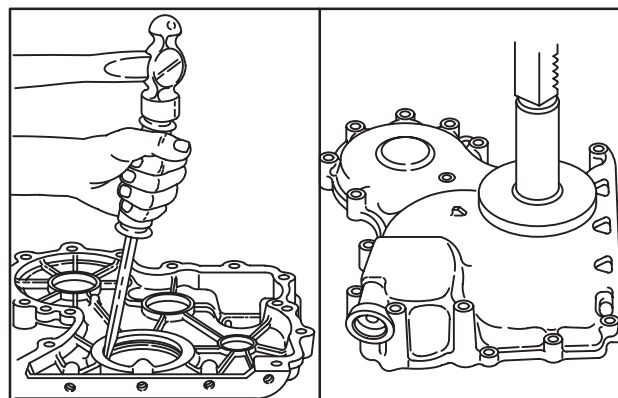

Fig. 12 – Replacing Oil Seal
2. Use seal driver, Tool #19423 to install new oil seal, Fig. 12.